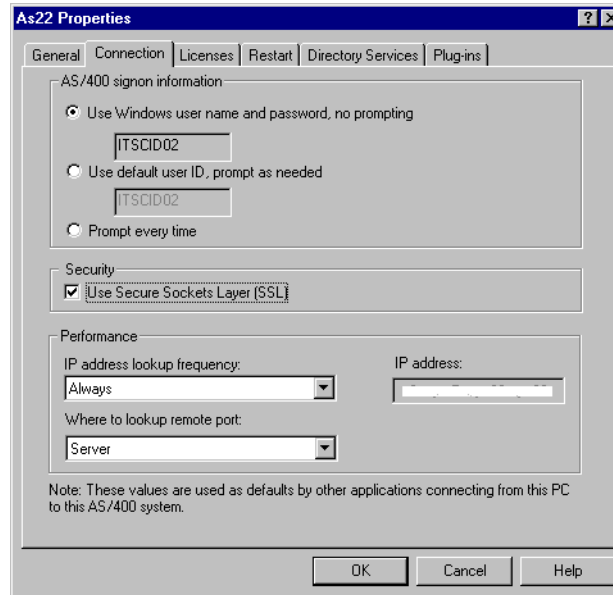

Figure 173. Operations Navigator SSL setup
3. Click the **Connection** tab (Figure 173 on page 205). Under **Security**, check **Use Secure Sockets Layer (SSL)**. This tells Client Access to use SSL. Keep clicking **OK** until you return to the Operations Navigator main windows. Finish setting this window for all SSL-enabled systems.